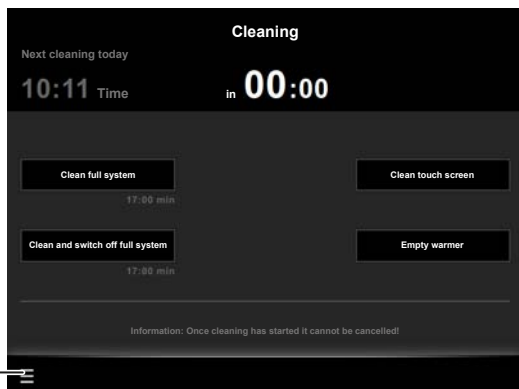

Fig. 40: Starting the cleaning program
- On the display, press the menu symbol “≡” (1) (see Fig. 40) and then “Cleaning”.
1. On the display, press the menu symbol “≡” (1) (see Fig. 40) and then “Cleaning”.